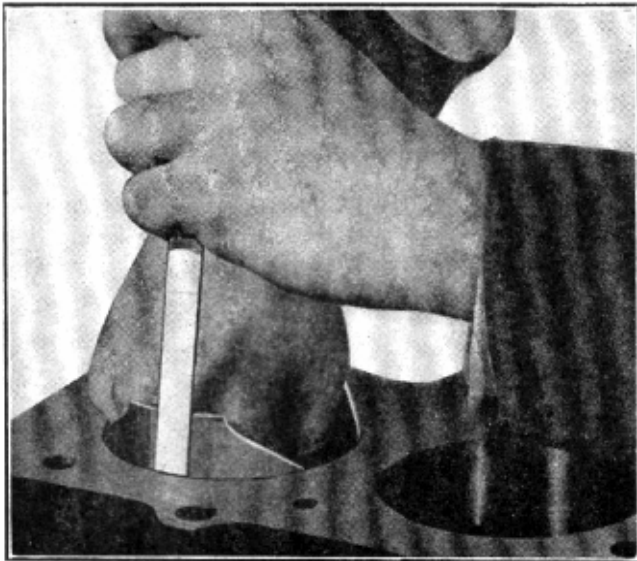

Fig. 11—Determining Piston Clearance—Tool No. HM-593
3. The pistons must be fitted in their running position in the cylinder. A proper size feeler should be inserted between the cylinder wall and thrust side of the piston. The feeler gauge should be at right angles to the piston pin and in line with the thrust surface of the piston. See Fig. 11.